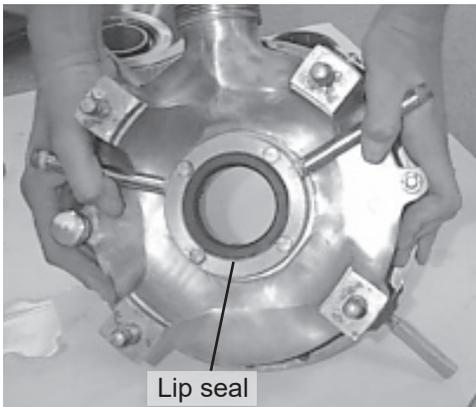

Figure 24 - Replace lip seal
6. Lubricate the outer races and press the shaft assembly into the case. Replace the retaining ring and rear seal (Figure 24).